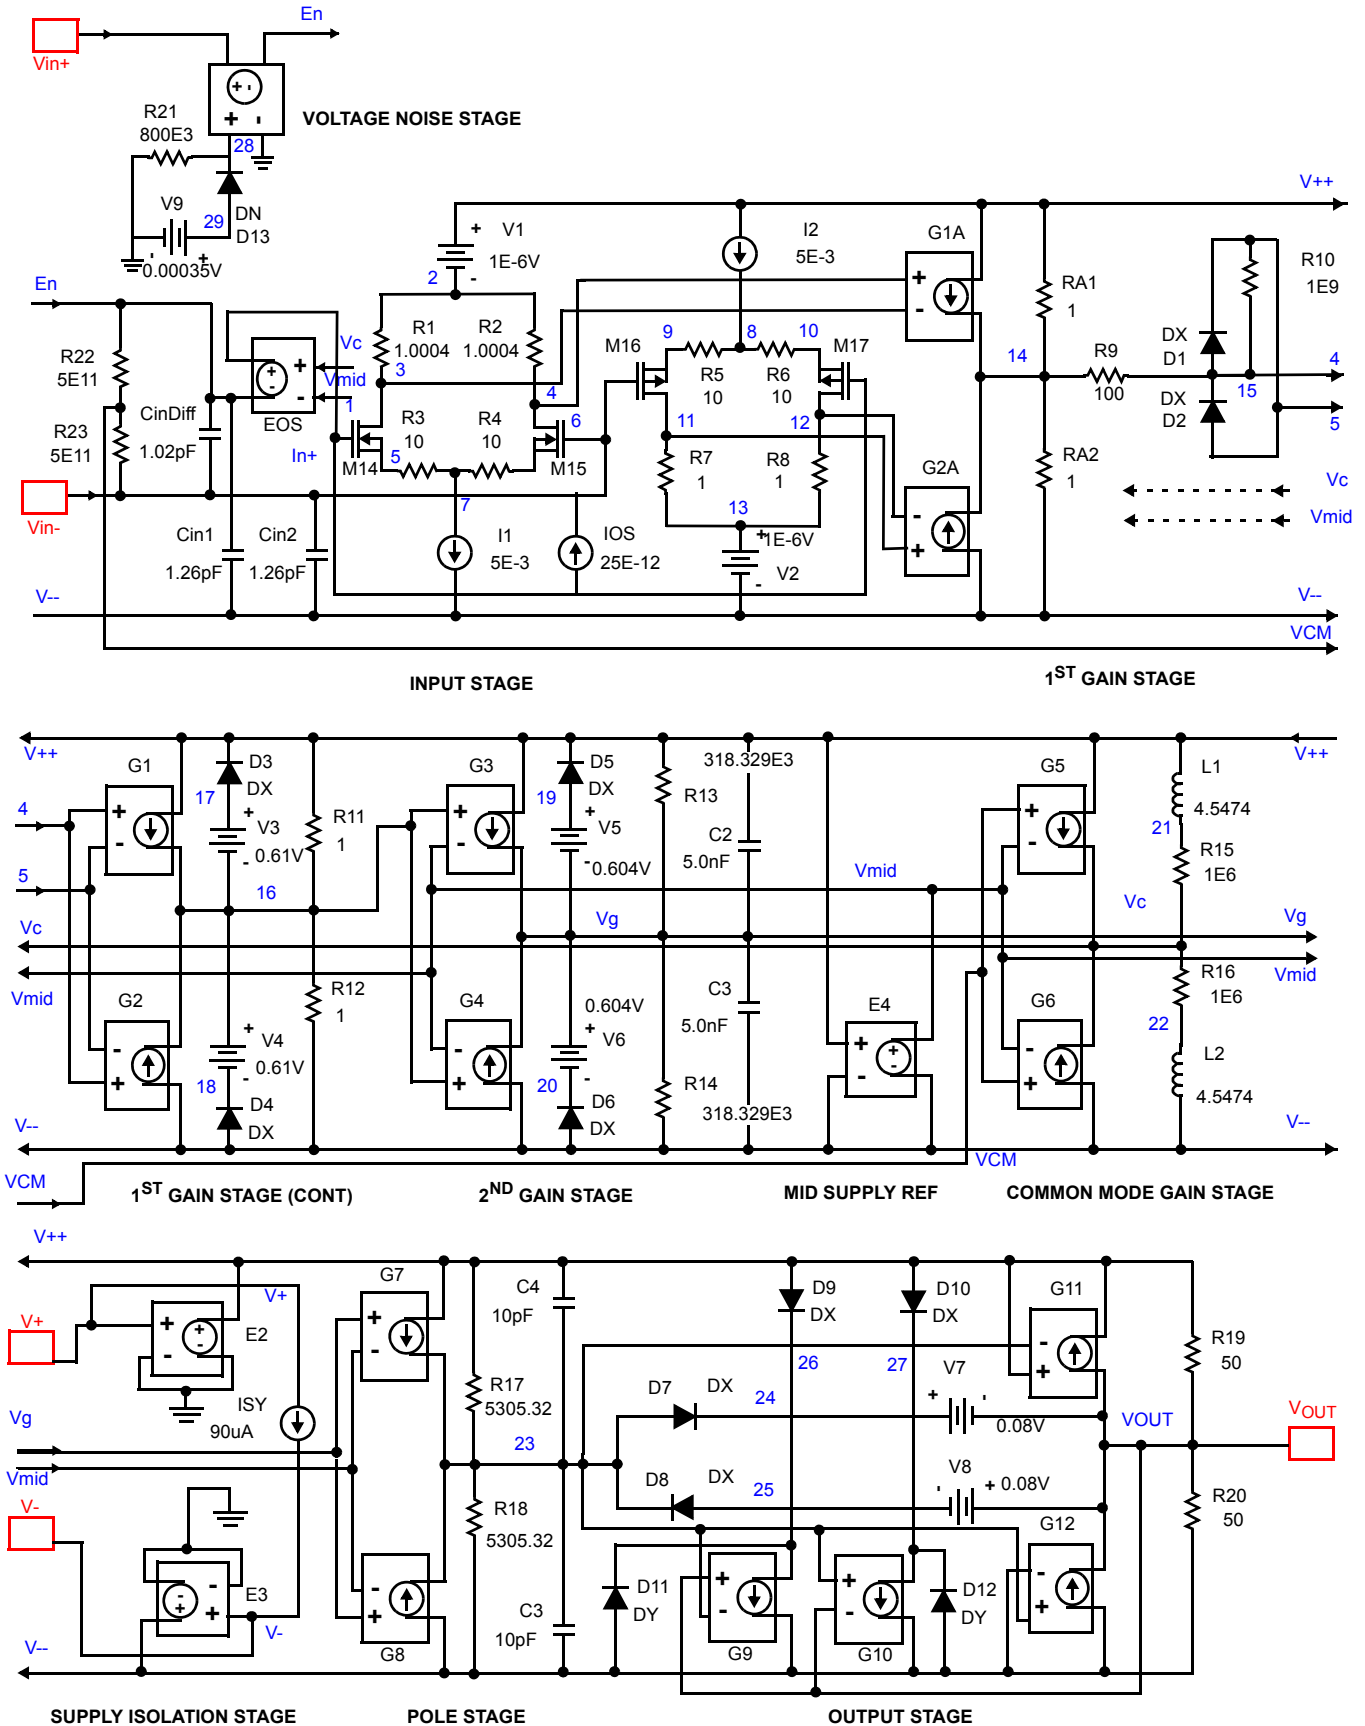
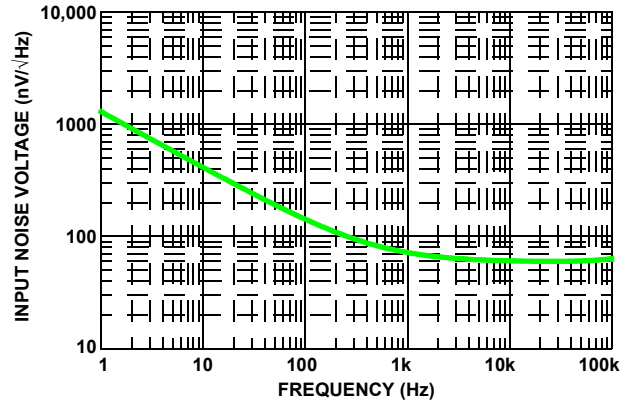

FIGURE 21. SPICE SCHEMATIC
FIGURE 24. SIMULATED INPUT NOISE VOLTAGE
Figure 21 shows the SPICE model schematic and Figure 22 shows the net list for the SPICE model. The model is a simplified version of the actual device and simulates important AC and DC parameters. AC parameters incorporated into the model are: 1/f and flatband noise, Slew Rate, CMRR, Gain and Phase. The DC parameters are IOS, total supply current and output voltage swing. The model uses typical parameters given in the “Electrical Specifications” Table beginning on page 4. The AVOL is adjusted for 85dB with the dominate pole at 100Hz. The CMRR is set 72dB,  $f = 35kHz$ . The input stage models the actual device to present an accurate AC representation. The model is configured for ambient temperature of +25°C.
| 3/23/10  | FN6728.4 | <p>Page 1, 2nd paragraph - Added "...SOT23-8 packages..." and changed "S08" to "SOIC8".Also global, changed S08 to SOIC8</p> <p>Pg 2, Ordering Information table: Part # ISL28213FEZ changed to ISL28213FHZ and Part Marking changed to "TBD"</p> <p>-Added Related Literature on page 1, updated ordering information by adding Eval boards.-Added to ordering information part number ISL28213FHZ 8 Ld SOT-23 Package as coming soon.-Replaced Figure 24 Simulated Input Noise Voltage with following changes:Y-axis from "10 to 100" to "10,000 to 10"Removed (A) AC sims.dat (active) from top of graphCurve changed to improve noise performanceMade changes to Spice Net List as follows:-Changed Revision from "C" to "D" and added improved noise performance to Revision line.-Changed in Voltage Noise"V_V9 29 0 .00035" to "V_V9 29 0 0.45""R_R21 28 0 800E3 TC=0,0" to "R_R21 28 0 30"-Removed TC=0 in Input Stage from R_R1 through C_Cin2-Removed TC=0 in 1st Gain Stage from R_R9 through R_R12-Removed TC=0 in 2nd Gain Stage from R_R13 through C_C3-Changed in Common Mode Gain Stage with Zero"G_G5 V++ VC VCM VMID 2.5118E-10" to "G_G5 V++ VC VCM VMID 0.25118""G_G6 V- VC VCM VMID 2.5118E-10" to "G_G6 V- VC VCM VMID 0.25118"Removed TC=0 from R_R16 through R_R23-Changed in Pole Stage"G_G7 V++ 23 VG VMID 188.49e-6" to "G_G7 V++ 23 VG VMID 0.18849""G_G8 V- 23 VG VMID 188.49e-6" to "G_G8 V- 23 VG VMID 0.18849"Removed TC=0 from R_R17 through C_C5Removed TC=0 in Output Stage with Correction Current Sources from R_R19 and R_R20Made changes to Spice Schematic Figure 21 as follows:-Input Stage - Modified connection to the EOS (voltage control voltage source)-Added to Thermal Information 8 LD SOT-23 as TBD-Added to pin configuration for the ISL28213 8 Ld SOT-23</p> |